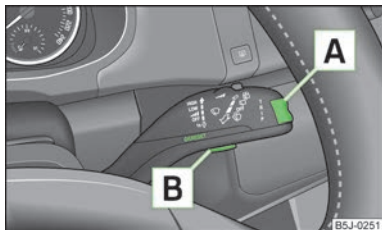

Fig. 7
➤ Activate the **Main menu** by pressing the rocker switch **A** » Fig. 7 for longer.
- If warning messages are shown in the information display, you need to confirm these messages with the button **[B]** » Fig. 7 on page 15 in order to call up the main menu.